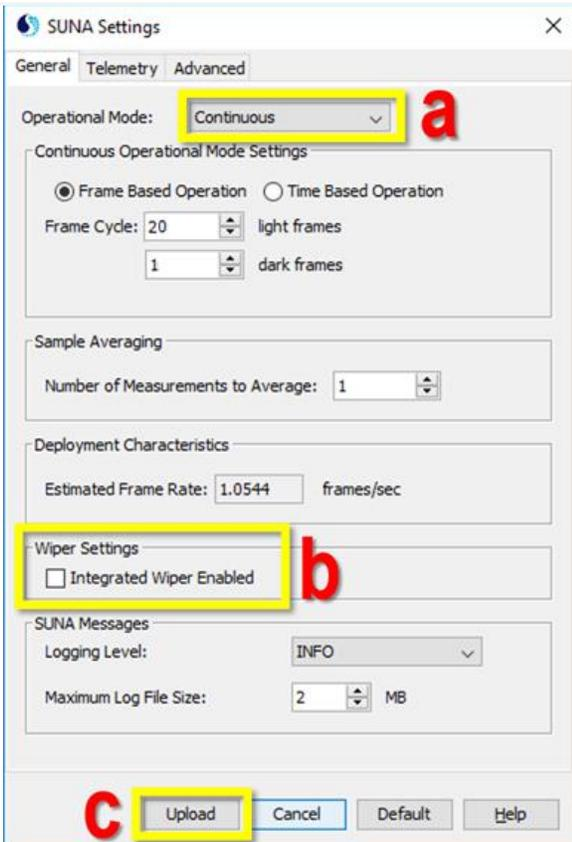

Figure 31. Configure SUNA for Validation Process
**STEP 4** | In the SUNA Settings, switch the Operational Mode from “Periodic” to “Continuous” (“a” in Figure 31).
**STEP 5** | Under Wiper Settings, disable the wiper by unchecking the “Integrated Wiper Enabled” box (“b” in Figure 31).
**STEP 6** | Verify that all options in the SUNA Settings are correct and click “Upload” to apply the changes made to the SUNA Settings (“c” in Figure 31).